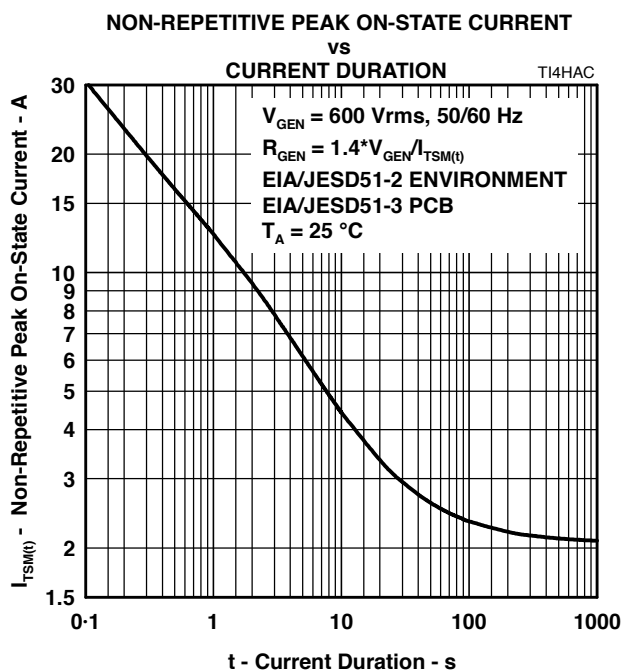

Figure 8.
5. EIA/JESD51-2 environment and EIA/JESD51-3 PCB with standard footprint dimensions connected with 5 A rated printed wiring track widths. See Figure 8 for the current ratings at other durations. Derate current values at  $-0.61\text{ \%/°C}$  for ambient temperatures above  $25\text{ °C}$ .
The protector can withstand currents applied for times not exceeding those shown in Figure 8. Currents that exceed these times must be terminated or reduced to avoid protector failure. Fuses, PTC (Positive Temperature Coefficient) resistors and fusible resistors are overcurrent protection devices which can be used to reduce the current flow. Protective fuses may range from a few hundred milliamperes to one ampere. In some cases, it may be necessary to add some extra series resistance to prevent the fuse opening during impulse testing. The current versus time characteristic of the overcurrent protector must be below the line shown in Figure 8. In some cases, there may be a further time limit imposed by the test standard (e.g. UL 1459 wiring simulator failure).